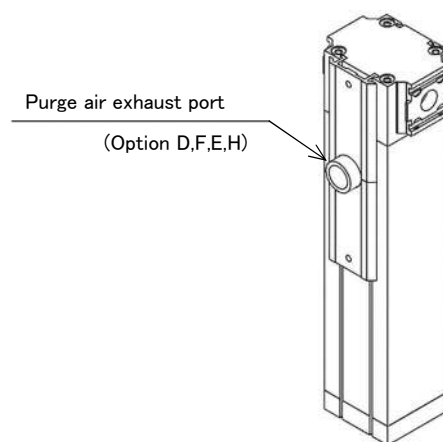

Fig.4
- 4) In case of the exhaust port of NS-3S and 3L series, piping of exhaust air should use the hose or piping material of I.D. 8 mm or more, and give length as less than 3 m. (Refer to Fig.4)
- 5) In case of the exhaust port of NS-4S and 4L series, piping of exhaust air should use the hose or piping material of I.D. 8.9 mm or more, and give length as less than 2 m. (Refer to Fig.4)